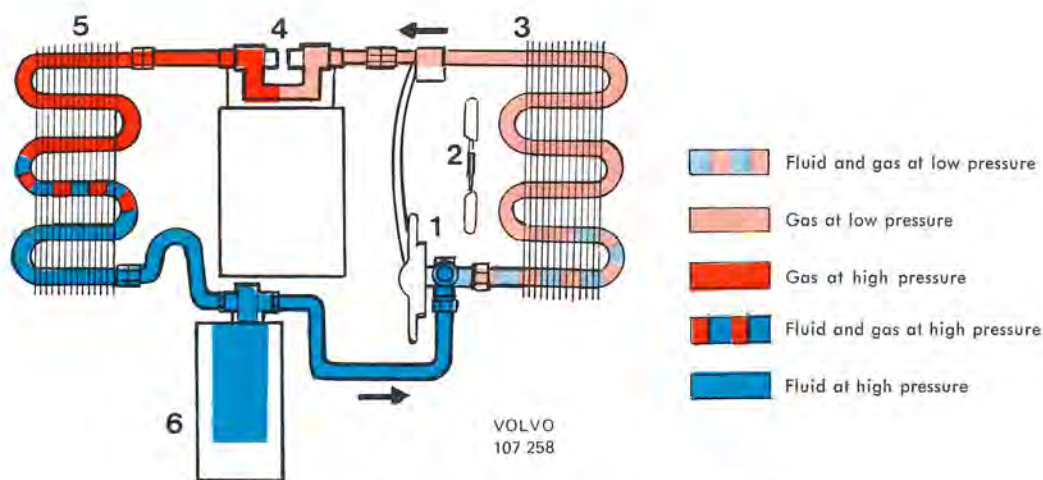

Fig. 8-42. Refrigerant circulation in air conditioning system
In order to explain the cooling process that takes place, it is suitable to start off with the thermostatic expansion valve, usually called the TEV (1, Fig. 8-42). Before the TEV, the refrigerant is in liquid form and at high pressure. When it flows into the inlet pipe of the evaporator, the temperature of the refrigerant immediately drops and is converted to part vapour, part fluid. Since the freezing point of the refrigerant is -32°C (-26°F) at normal air pressure, it starts to boil and changes to vapour in the evaporator coil (3), where it absorbs heat from the warm air which the fan motor (2) blows round the pipeline. Due to the fact that heat is absorbed from the air, it becomes colder. It is this cold air which is blown out through the air ducts into the compartment. In the evaporator coil, the latent heat has caused the refrigerant to convert to a gaseous form, without any change in temperature. Before the refrigerant reaches the end of the coil, it absorbs, however, more heat and the gas temperature rises.